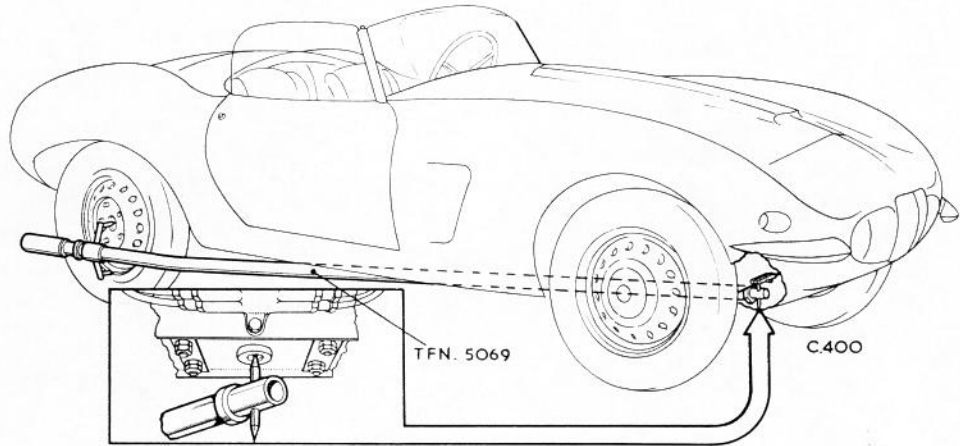

Fig. 19 - Checking rear axle alignment.
2. Set the trammel TFN.5069 to correspond to the distance from the centre of one rear hub to the centre of the front spring spigot see Fig.19.